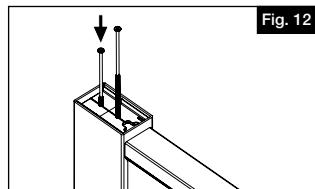

Fig. 12
h. Install second topper stile between the top and bottom rails. Add vinyl cement to second gate upright and attach second upright (Fig. 12).
Install two 6" screws (provided) through each upright insert and into the rail using the molded grooves on the insert as a guide (Fig. 12).